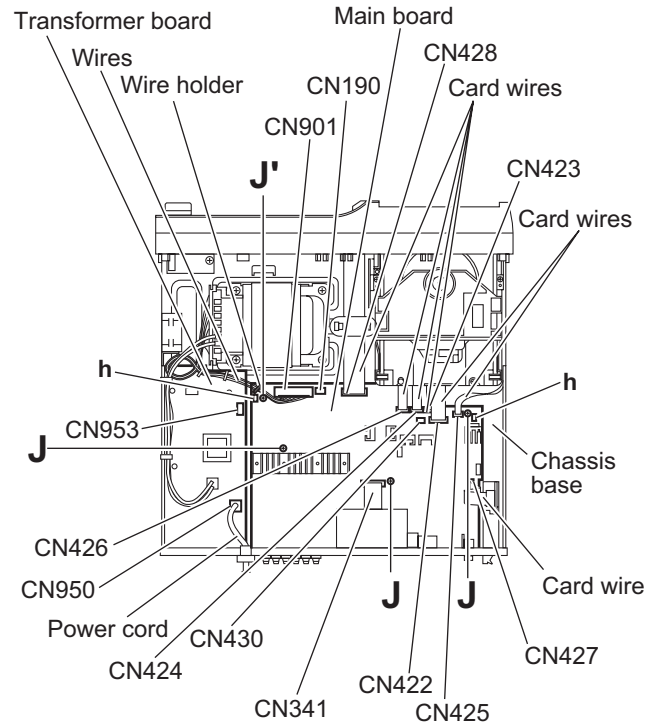

Fig.12
3.1.8 Removing the main board (See Figs.12 and 13)
- (1) From the top side of the main body, disconnect the card wires from the connectors (CN341, CN422 to CN428) on the main board. [B/E/EN/EV/EE version] (See Fig.12.)
- (2) From the top side of the main body, disconnect the card wires from the connectors (CN422 to CN428) on the main board. [A version] (See Fig.12.)
- (3) Disconnect the wires from the connectors (CN190, CN430, CN901) on the main board. (See Fig.12.)
After connecting the wires to the connectors (CN190, CN901), fix the wires with the wire holder. (See Fig.12.)
- (4) Disconnect the power cord and wire from the connectors (CN950, CN953) on the transformer board. (See Fig.12.)
- (5) Remove the three screws J and screw J' attaching the main board on the chassis base. (See Fig.12.)
When attaching the screw J', attach the wire holder with it. (See Fig.12.)
When attaching the main board, align the hole on the main board to the projections h of the chassis base before attaching the screws J and J'. (See Fig.12.)